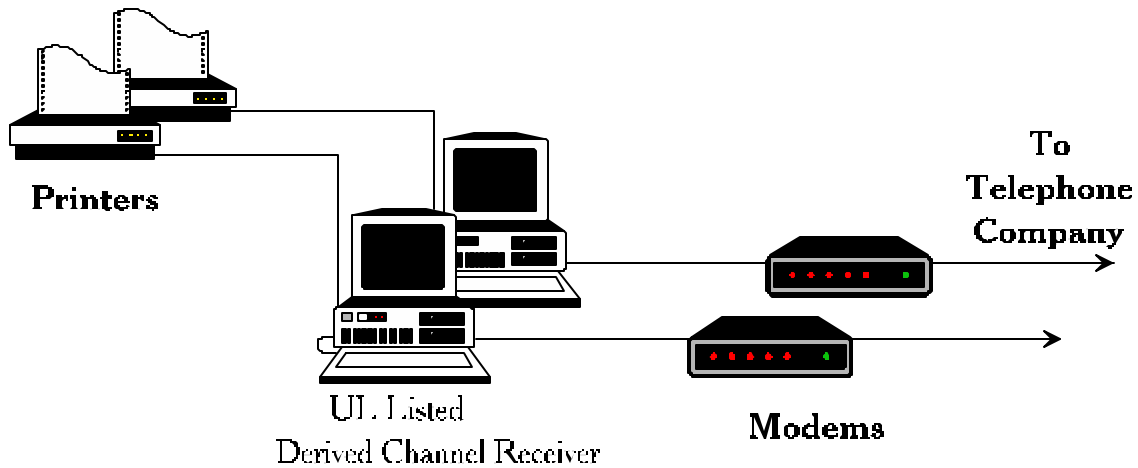

Figure 2
Refer to Figure 2 for a diagram of the equipment required in the alarm central monitoring station for a redundant configuration. Connection to the Message Switch is by way of two (2) private data circuits provided by the telephone company. These circuits appear to the alarm dealer as telco 4-wire loops.